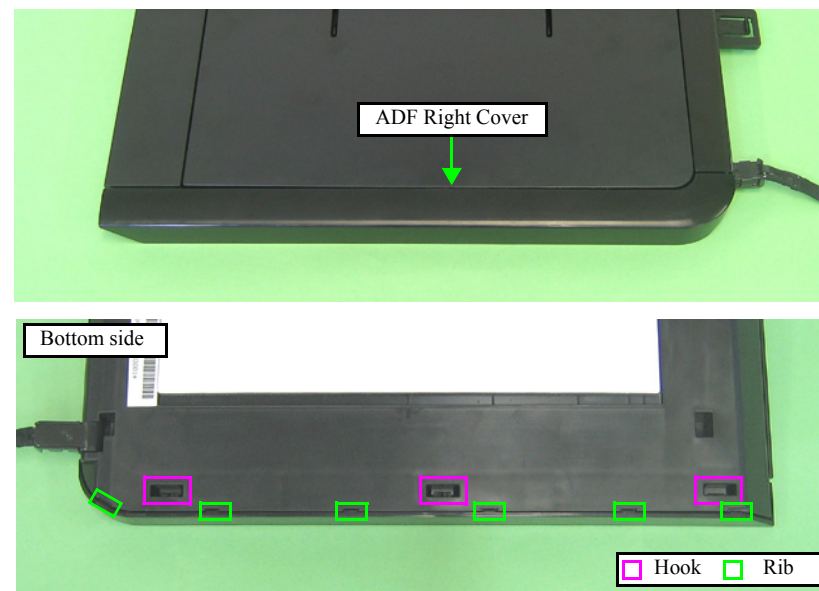

Figure 4-134. Removing the ADF Right Cover
- When installing the ADF Right Cover, align the positioning holes (x2) with the dowels (x2) of the ADF Right Cover and the ADF Base Assy, and also align the ribs (x6) shown in Fig. 4-134.